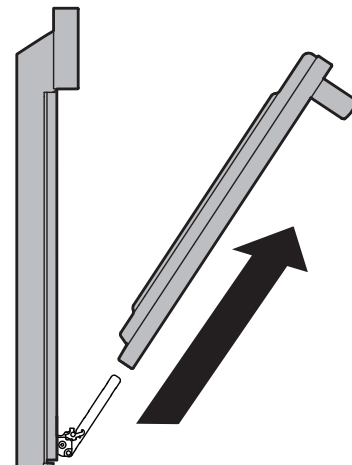

Figure 21: Remove door
4. Pull the bottom of the door toward you while rotating the top of the door toward the appliance to completely disengage the hinge levers (Figure 21).
1. Firmly grasp both sides of oven door along the door sides. Do not use the oven door handle (Figure 21).